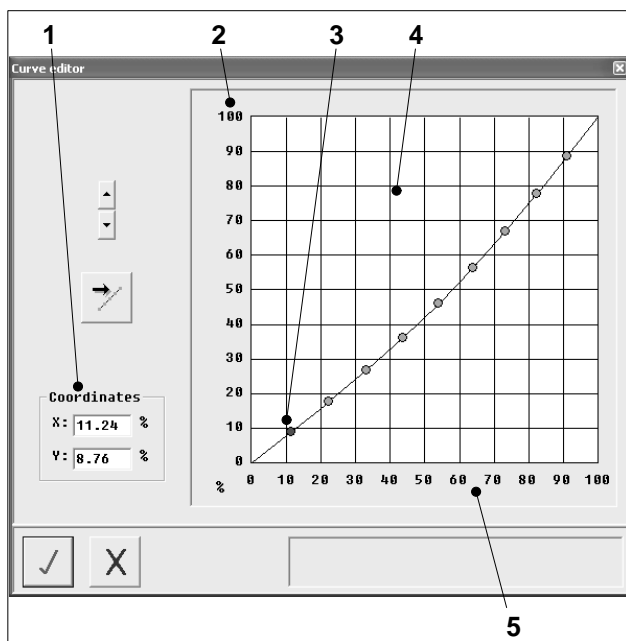

Fig. 25 The *Curve Editor* dialog window
12. Double-click on one of the transfer characteristic curves to edit the copy-to-film or the copy-to-plate characteristic curve. The *Curve Editor* dialog window shown in Fig. 25 appears.
The right-hand area of the dialog window shows the coordinate system of the characteristic curve (Fig. 25/4).
The input value is shown on the horizontal X axis (Fig. 25/5). The resulting value is shown on the vertical Y axis (Fig. 25/2).
13. Click on the dot on the characteristic curve you wish to move. The selected dot is shown in red (Fig. 25/3). Dots which are then not selected appear green. The current coordinates of this dot are shown on the left next to the system of coordinates in Fig. 25/1.
14. Click on the field of the X coordinate and enter the desired value. Hit *Enter* to jump to the field of the Y coordinate. Enter the desired value here also (Fig. 25/1).